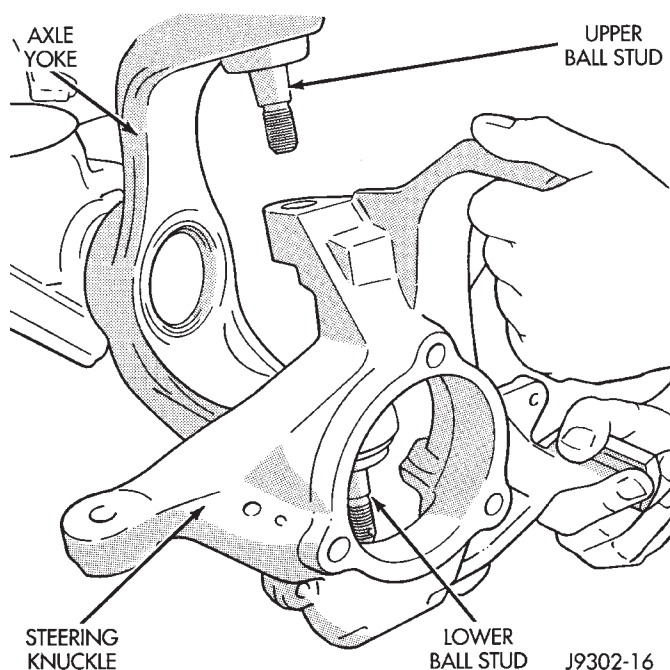

Fig. 27 Steering Knuckle Removal/Installation
(1) Remove hub bearing and axle shaft.
(2) Disconnect the tie-rod or drag link from the steering knuckle arm. Refer to Group 2, Suspension, for proper procedures.
(3) Remove the cotter pins from the upper and lower ball studs.
(4) Remove the upper and lower ball stud nuts.
(5) Strike the steering knuckle with a brass hammer to loosen knuckle from the ball studs. Remove knuckle from ball studs (Fig. 27).